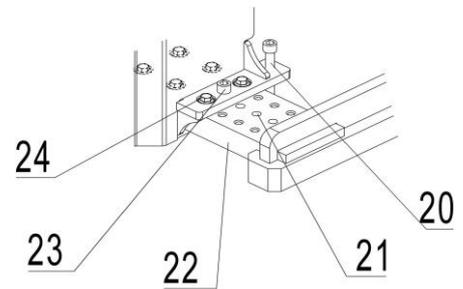

Fig.16: Adjust the legs
- Tighten the positioning bolt (23) after adjusting the legs.
- When adjusting the legs, please pay attention that the number of positioning holes (21) exposed on each side of the legs should be same. (as shown in Fig. 16, if one side has 3 positioning holes(21), the other side should also be 3).
When adjusting the legs, please pay attention that the number of positioning holes (21) exposed on each side of the legs should be same. (as shown in Fig. 16, if one side has 3 positioning holes(21), the other side should also be 3).
- Screw the positioning bolt (23) tightly and tighten bolt (24) outside and inside the battery compartment.
- Turn anti-clockwise the supporting assembly(20) on both sides of the truck until the supporting assembly can't be turned anymore.